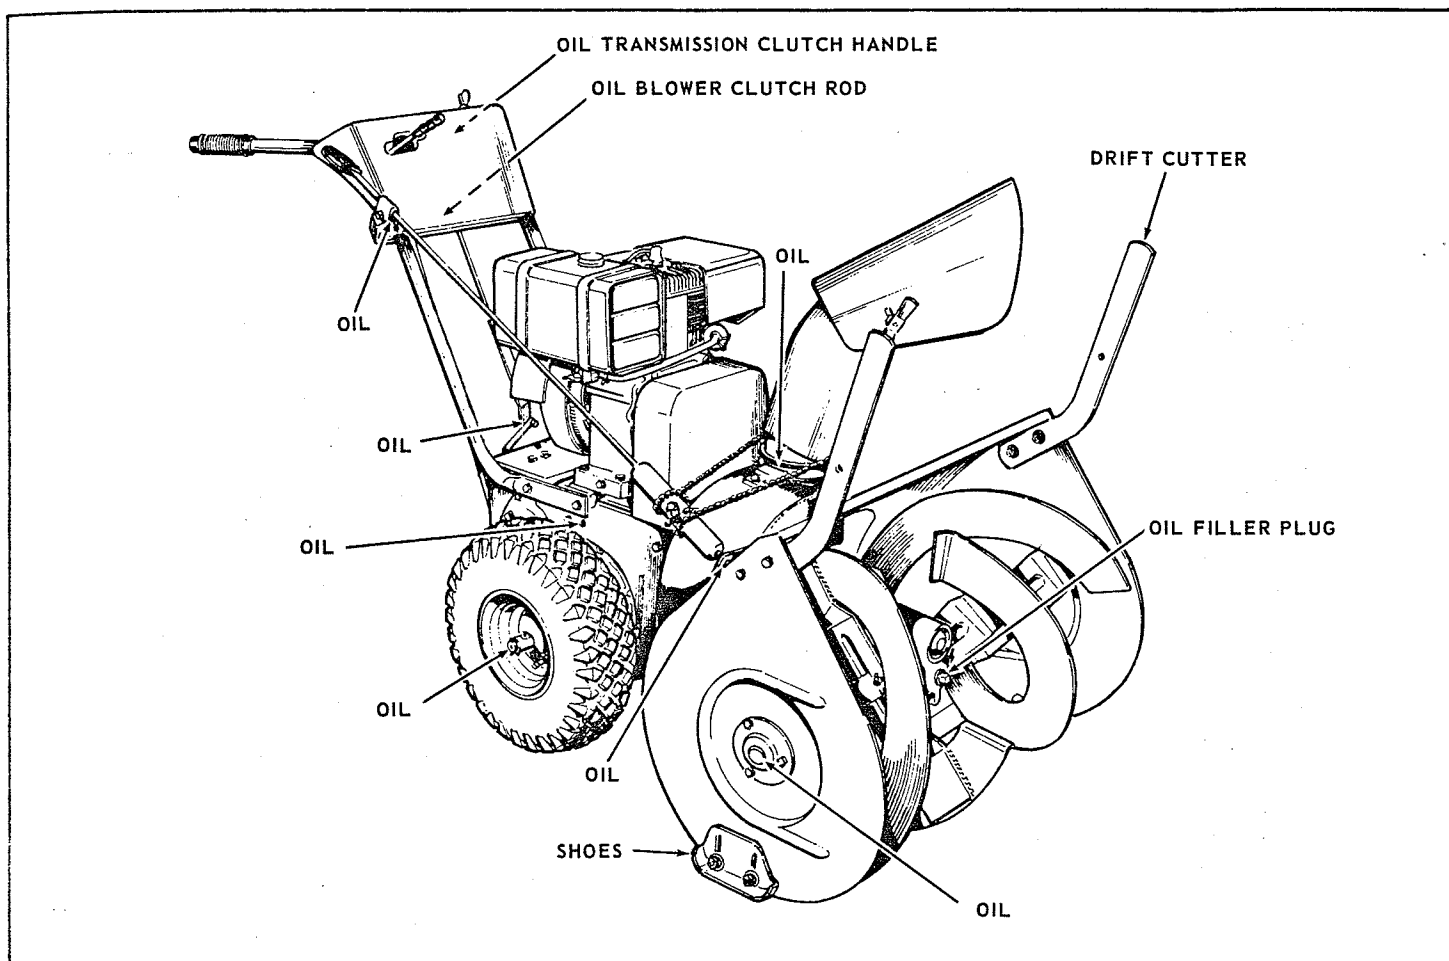
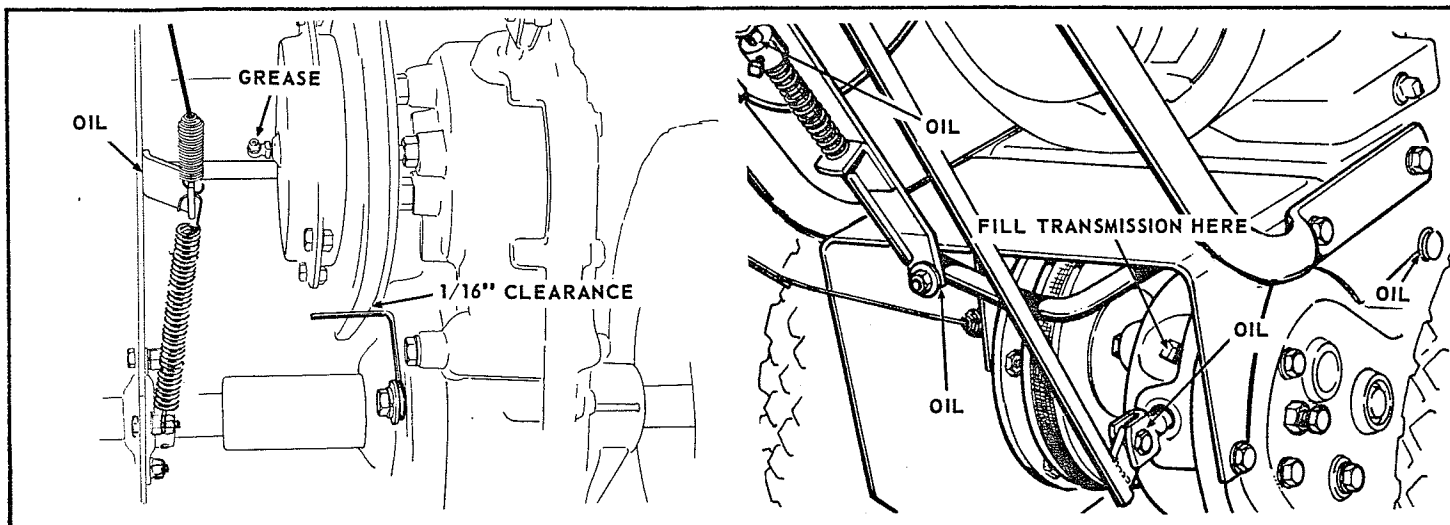

FIGURE 1
FIGURE 6
1. Attach the left and right hand shoe to the outside of body assembly with the 3/8"-16NC x 3/4" long carriage bolt, 3/8" plain and 3/8" lockwasher. Secure with 3/8"-16NC full hex nut, which is on outside of shoe at desired elevation for your specific needs. (Sno-Away should be raised when using on gravel). See Fig. 1.
2. Attach Left and Right Hand Drift Cutters to the inside of Body Assembly with the 3/8"-16 x 3/4" long hex capscrews, 3/8" plain and 3/8" lockwashers. Secure with 3/8"-16 full hex. nut. See Fig. 1.
1. There is one grease fitting on this Sno-Away (See Fig. 6). Lubricate with a general purpose automotive type grease every 15 hours of operation. Also the occasional application of light motor oil as indicated on Figs. 1 & 6 . will assist in operation of this Sno-Away.
4. The filler plug on the transmission is located at the rear of the unit on the top of the transmission. The transmission should be filled to the level of the oil level plug which is located on the right side of the transmission. (See Fig. 6) The drain plug is located at the bottom of the transmission.
Belt Stops are used on this Sno-Away as shown in Fig. 6. Engage Rotor Clutch and Transmission Clutch and check clearance between belt and stop. The belt stop will be properly adjusted when 1/16" clearance is visible between the stop and the belt.